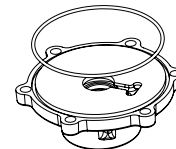

Figure 7
4. Seat O-ring in groove (Figure 7).